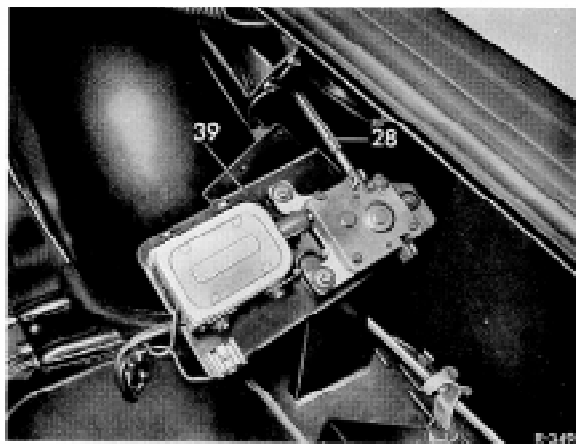

Fig. 5 (shown on Model 114/115)
**14** Introduce teleflex tube into trunk compartment until the holder (39) can be flanged to the teleflex tube together with the gear unit (Fig. 5).
**15** Move holder (39) into correct position and screw on.